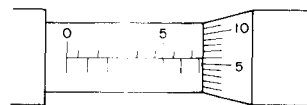

Fig. 16
40. The reading on the micrometer shown in Fig. 16 is